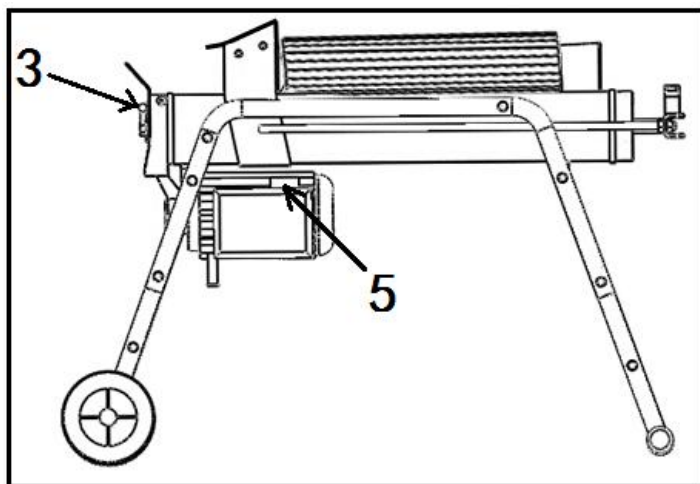

**Fig.11**
**LIMITING SCREW (16) IN FIG. 11**